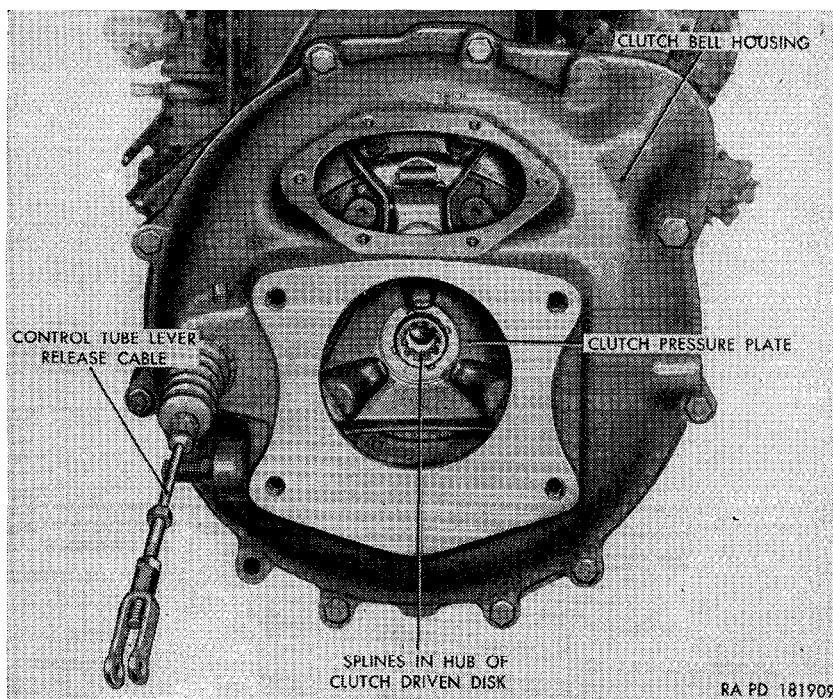

Figure 125. Clutch bell housing—rear view—transmission removed.
*a. Description.* The clutch, located between the engine and transmission, is a single disk, dry-type, composed of two major units, the clutch pressure plate (fig. 125) and the driven disk. The controlled pressure of the driven disk against the engine flywheel provides a
d. Aline the input shaft splines with the clutch driven disk (fig. 125) hub splines and insert the input shaft through the disk hub until it seats in the engine flywheel clutch pilot bearing. Secure the